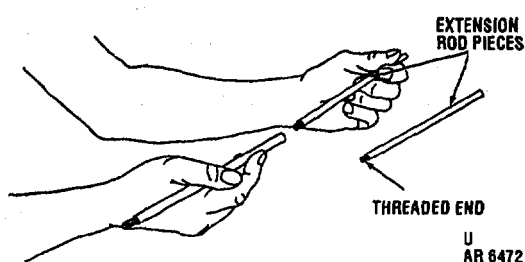
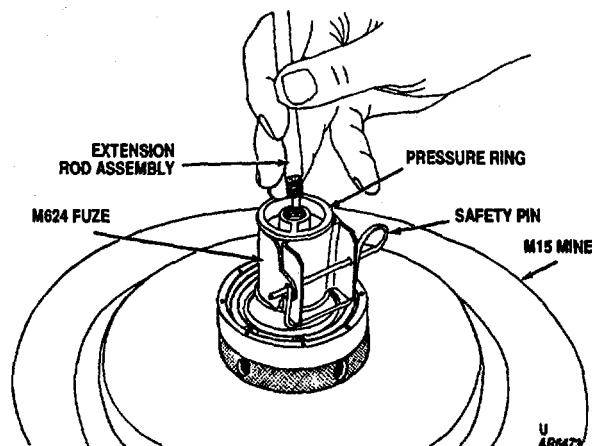

Figure 2-39. Extension rod assembly.
Figure 2-40. Assembly of extension rod into fuze ring.
- (16) For buried application, assemble all three pieces of extension rod together (fig. 2-39). Then, thread extension rod into threaded pressure ring of fuze (fig. 2-40). For surface emplacement, use first two sections of extension rod only.